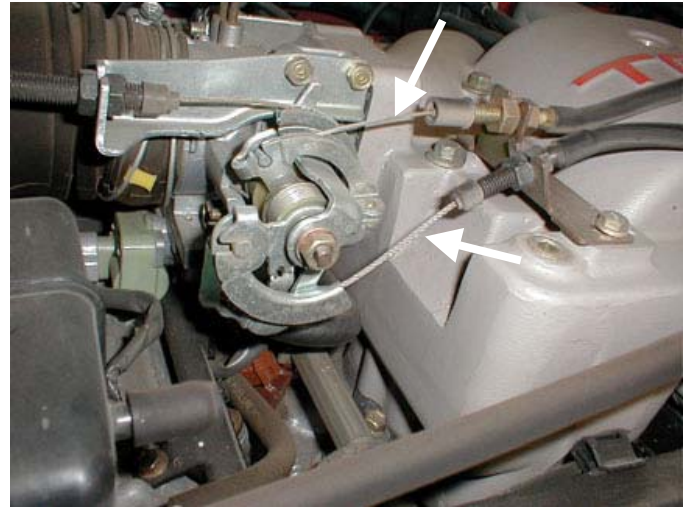

Figure 20
10. Replace the transmission kickdown cable and throttle cable (if necessary, Figure 20).